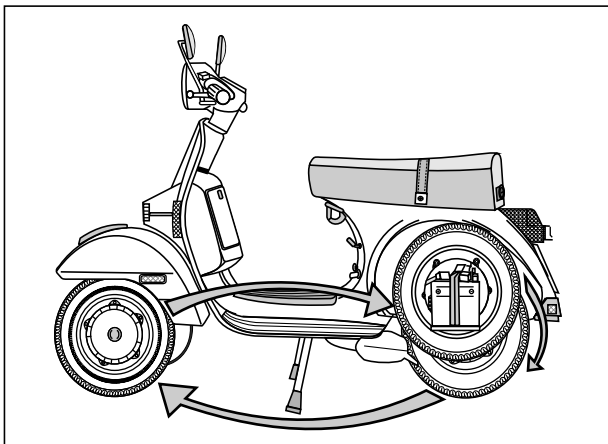

Fig.118-Tyre rotation
- (d) Follow the sequence for tyre rotation as explained in fig.118